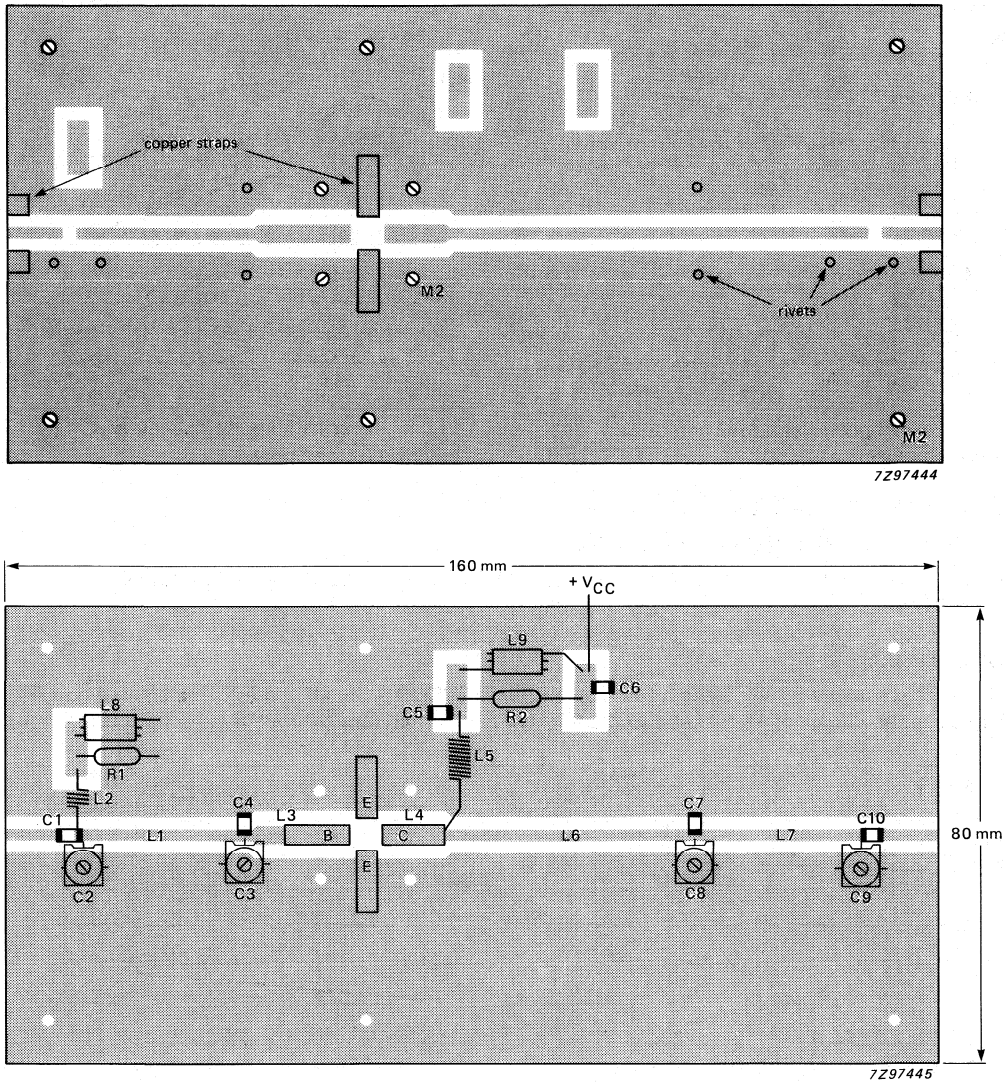

Fig. 6 Printed-circuit board and component lay-out for 900 MHz class-B test circuit.
\*\* Device mounted on a printed-circuit board (see Fig. 6).
The device is capable to withstand a full load mismatch ( $VSWR = 50$ ; all phases) at rated load power up to a supply voltage of  $15.5 \text{ V}$  at  $T_a = 25 \text{ }^\circ\text{C}$ . Device mounted on a printed-circuit board (see Fig. 6).
- the device can be applied at rated load power, without an external heatsink, when it is mounted on a printed-circuit board (see Fig. 6).